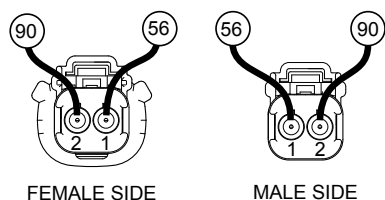

Figure 195. CS Choke Solenoid Connector
4. Refer to Figure 195. Connect the positive meter test lead to Pin 1 (Wire 56) of the female side of the CS connector going to the control panel and connect the negative meter test lead to Pin 2 (Wire 90).